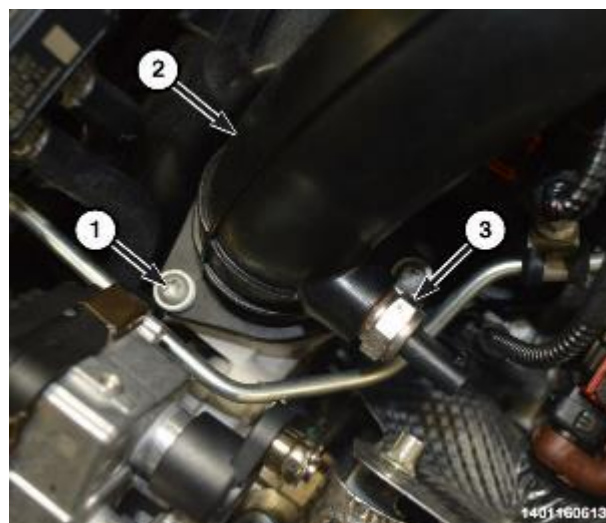

Figure 61 – Turbo Outlet Elbow
110. Using a **NEW** gasket, install the turbocharger outlet elbow (2) and securely tighten the screws (1) (Figure 61).